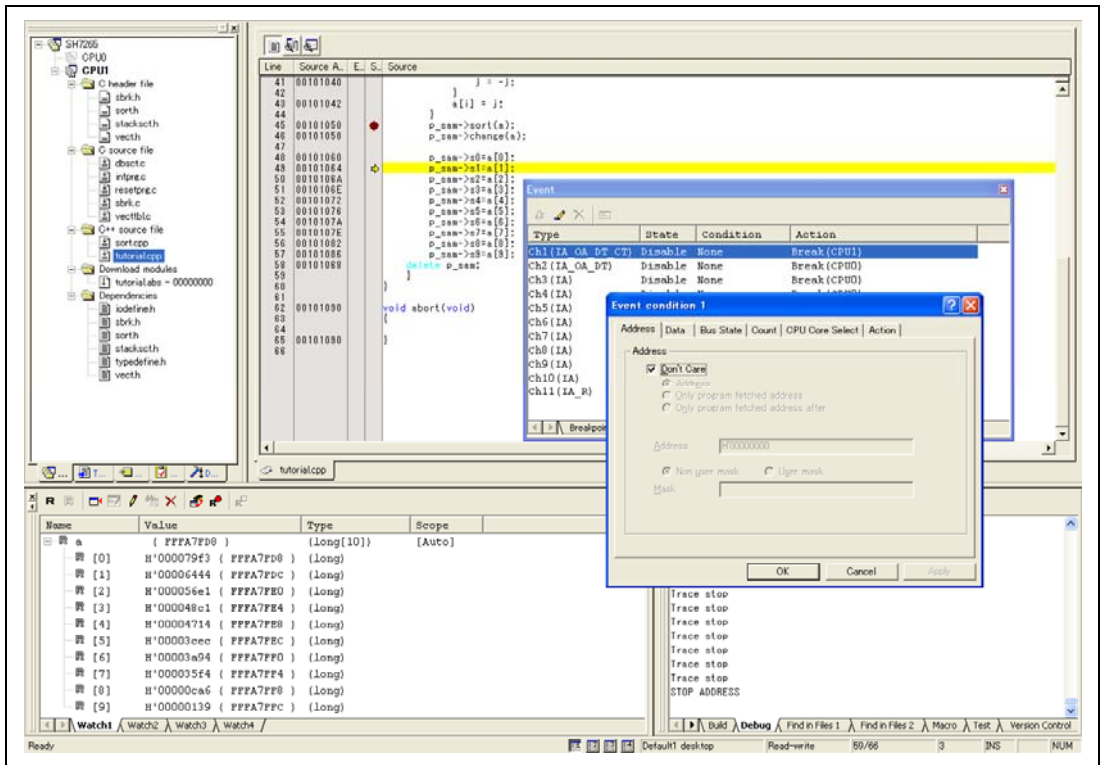

Figure 6.40 [High-performance Embedded Workshop] Window ([Ch1 (IA_OA_DT_CT)])
- Select [Combination action (Sequential or PtoP)] from the popup menu by clicking the [Event] window with the right-hand mouse button. The [Combination action (Sequential or PtoP)] dialog box will open (figure 6.40).